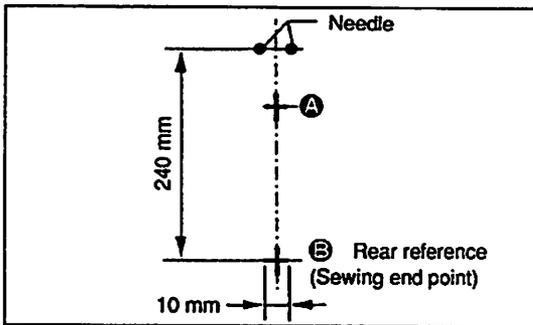

Fig. 21
3. Loosen setscrews **2** and **3** in the cross mark lamp on the near side. This cross mark lamp is used to determine the rear reference for sewing. Now adjust the position of lamp so that it irradiates point **B** as illustrated in Fig. 21. The distance from the needle to the lamp should be 240 mm.